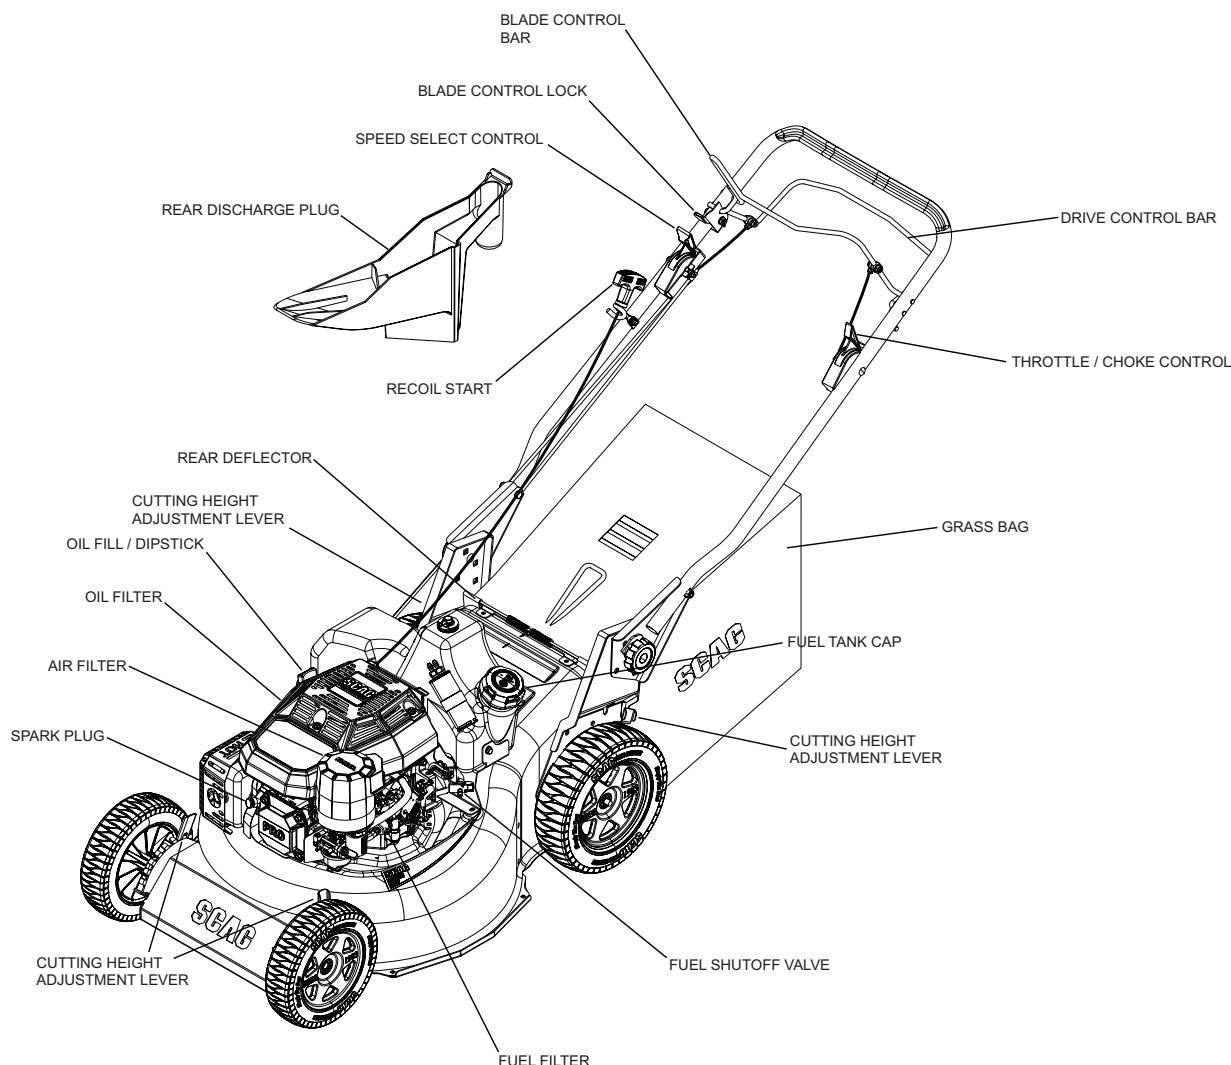

Figure 4-1. Controls and Instruments
- 1. Recoil Start (Figure 4-1).** The recoil start is used to start the engine.
- 2. Blade Control Bar (Figure 4-1).** Used to engage and disengage the cutter blade drive system. Pulling the control bar will engage the cutter blades. Releasing the control bar will disengage the cutter blades.
- 3. Engine Throttle / Choke Control (Figure 4-1).** Used to control the engine speed and choke control. Pushing the lever forward increases engine speed. Pulling the lever back decreases engine speed. Push the lever all the way forward past the detent to engage the choke when starting a cold engine. Full back position is the STOP position. Full forward to detent is the cutting position.
4. **Drive Control Bar (Figure 4-1).** Used to engage and disengage the mower forward drive system.
5. **Speed Select Control (Figure 4-1).** Use to set the maximum forward speed.
6. **Blade Control Lock (Figure 4-1).** Use to lock the blade control bar in the neutral position.
7. **Grass Bag (Figure 4-1).** Use to bag and collect grass clippings while mowing.
8. **Fuel Tank Cap (Figure 4-1).** Use to fill the fuel tank with fuel.
9. **Fuel Shutoff Valve (Figure 4-1).** Used to shut off fuel supply to the engine.
10. **Cutting Height Adjustment Lever (Figure 4-1).** Used to set the cutter deck at the desired cutting height.
11. **Fuel Filter (Figure 4-1).** Used to filter the fuel supply to the engine. Refer to engine owner's manual supplied with this unit when servicing.
12. **Spark Plug (Figure 4-1).** Used to supply spark to the engine. Refer to engine owner's manual supplied with this unit when servicing.
13. **Air Filter (Figure 4-1).** Used to filter the air supply to the engine. Refer to engine owner's manual supplied with this unit when servicing.
14. **Oil Filter (Figure 4-1).** Used to filter the oil supply in the engine. Refer to engine owner's manual supplied with this unit when servicing.
15. **Oil Fill / Dipstick (Figure 4-1).** Used to add and check the level of oil in the engine. Refer to engine owner's manual supplied with this unit when servicing.
16. **Rear Discharge Plug (Figure 4-1).** Used to shut off the discharge of grass clippings out of the rear discharge opening. Install when mulching.
17. **Rear Deflector (Figure 4-1).** Used to hold the grass bag and rear discharge plug in place during operation.